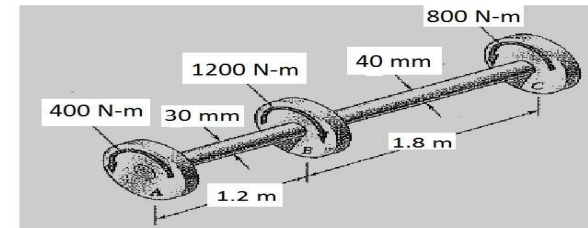

Fig. 7
9. (a) The torques shown in Fig. 7, are exerted on pulleys A, B, C. Knowir both shafts are solid and made of brass($G = 40 \text{ GPa}$), dete (a) shearing stress in shaft AB (b) shearing stress in shaft BC (angle of twist between A and B (d) the angle of twist between A an